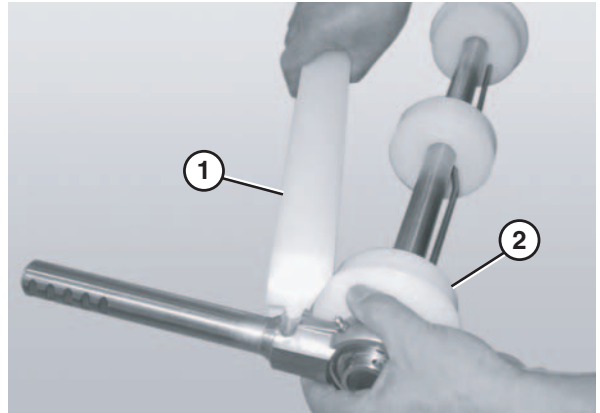

Figure 81
3. Attach the flanged pucks (Figure 81, item 2) and bearing shaft assemblies to the idler shaft.
4. Attach the guard bar (Figure 81, item 1).